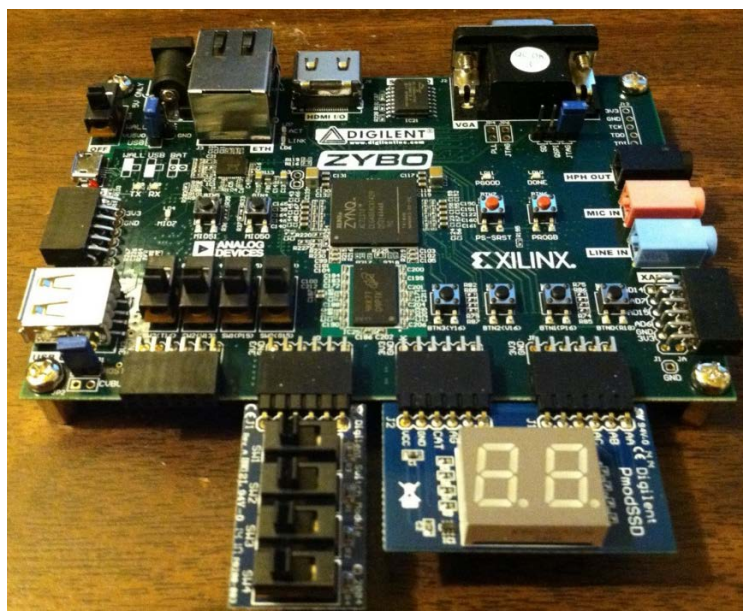

Figure 5. Board Layout for Lab 2 Design Constraints.
Step 4-3: The second PMOD device you have been provided is a Seven Segment Display. The schematic for this PMOD accessory is shown in Figure 5. This device actually allows for two digits to be displayed, however, for this lab you will only be using the first digit.